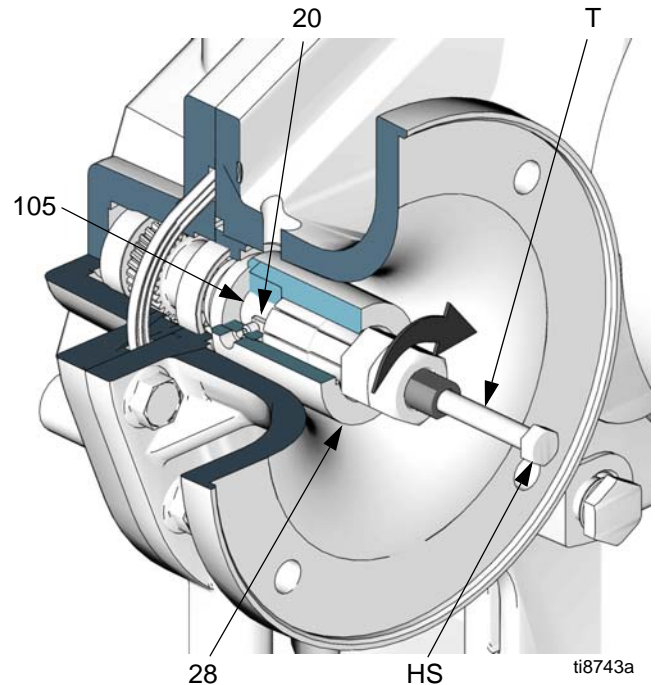

FIG. 3. Motor Coupler Removal
- b. See FIG. 3. Loosen both setscrews (31). Insert the coupler removal tool (T) into the coupler (28). Turn nut clockwise until tight, then pull the